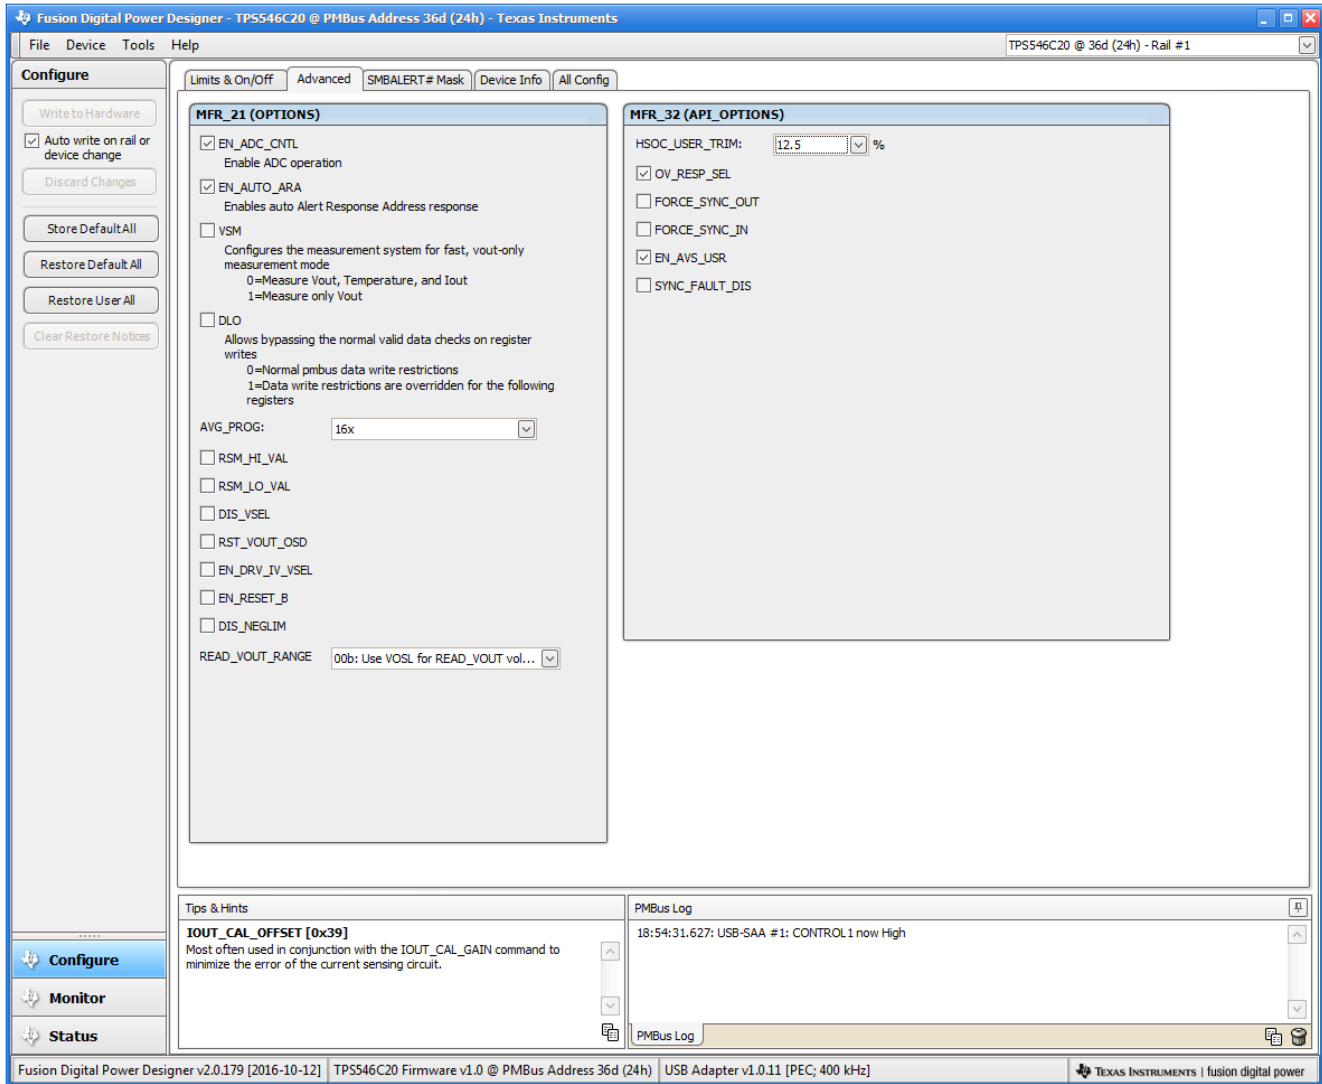

Figure 10-4. Configure – Advanced
For modifications on V_{ref} and soft-start time, to make the changes effective in next power up, **DIS_VSEL** in **Advanced** tab (Figure 10-4) should be checked and stored to nonvolatile memory as well.
- Use the **Advanced** tab (Figure 10-4) to configure: